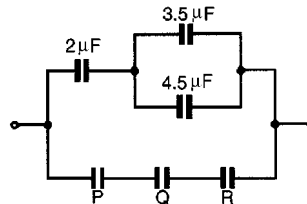

Figure 6.12
- In Fig. 6.12 capacitors P , Q and R are identical and the total equivalent capacitance of the circuit is $3\ \mu\text{F}$. Determine the values of P , Q and R [$4.2\ \mu\text{F}$ each]